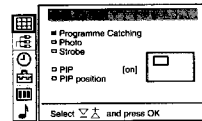

Fig. 33
- 2 Select the symbol  for »MULTI PIP« with Δ or ∇ and press OK. The MULTI PIP menu appears (See Fig. 33).